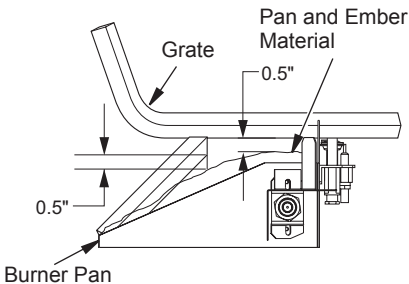

Figure 24 - Pan and Ember Material Clearances (P325/VP325 Models Shown)
- Place just enough to cover the entire surface and leave about a 1/2" gap under the lower grate members to allow air to flow (see Figure 24).